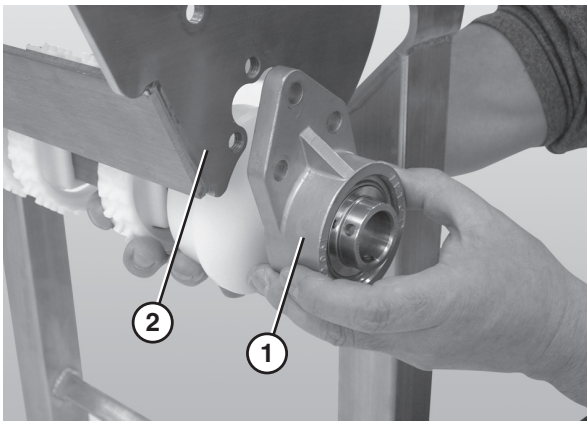

Figure 59
- Disconnect the 3 hole flange bearing (**Figure 59, item 1**) from the nose bar drive weldment (**Figure 59, item 2**).